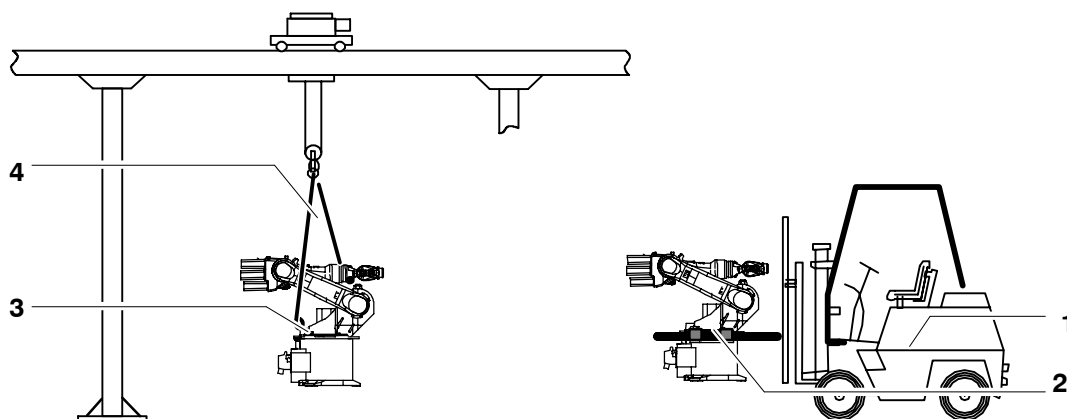

Fig. 42 Transporting floor-mounted manipulators
- With lifting tackle and crane (Fig. 42, left-hand side)
- With fork lift truck (Fig. 42, right-hand side)